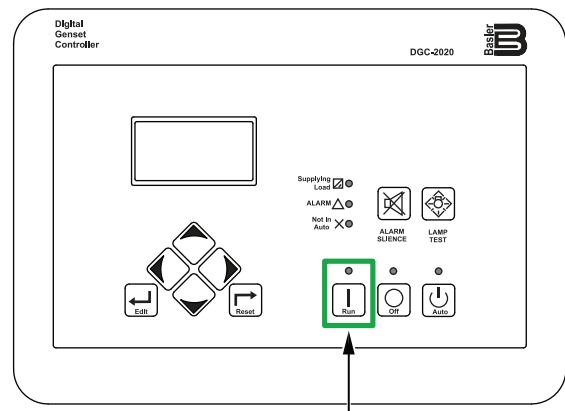

Figure 44. Digital Controller (Run Button)
1. To start the engine, press the **Run button** (Figure 44) on the digital controller.